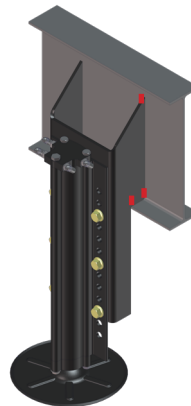

Fig. 9
10. Tack weld the top and bottom corners of each side of the mounting flange **(Fig.9)**.